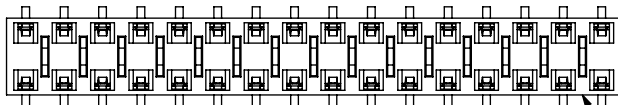

FIG 5
- BE: BOTTOM ENTRY (USE RHLE-50-DBE) (SEE FIG 5) (LEAVE BLANK FOR STANDARD)